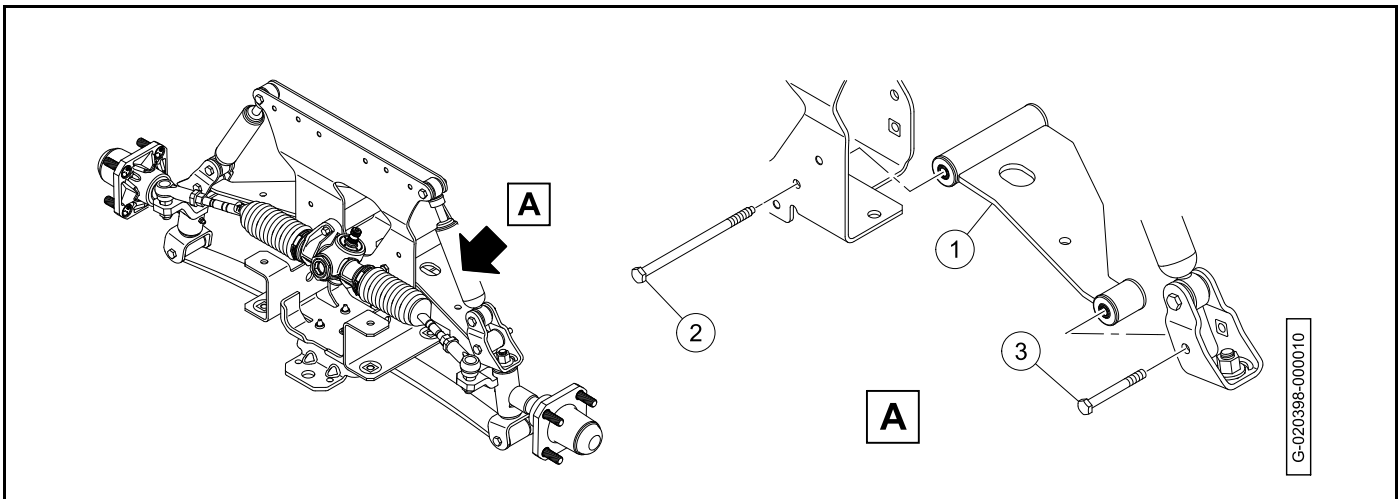

Figure 7-22
1. Put the control arm (1) into position on the vehicle (Figure 7-22).